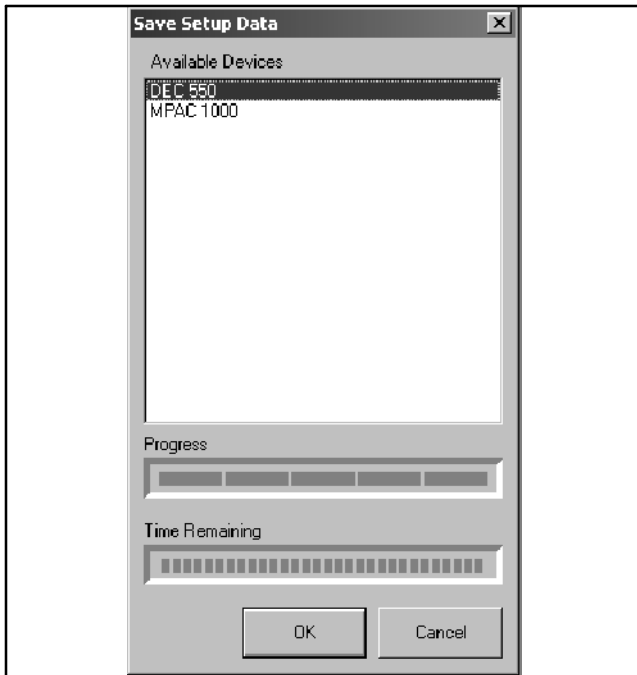

Figure 2-9 Save Setup
3. The *Save Setup* window appears. See Figure 2-9. Click on the device in the list and then click *OK*.
2. The Restore Setup window (similar to the Save Setup window shown in Figure 2-9) appears. Click on the device in the list and then click *OK*.